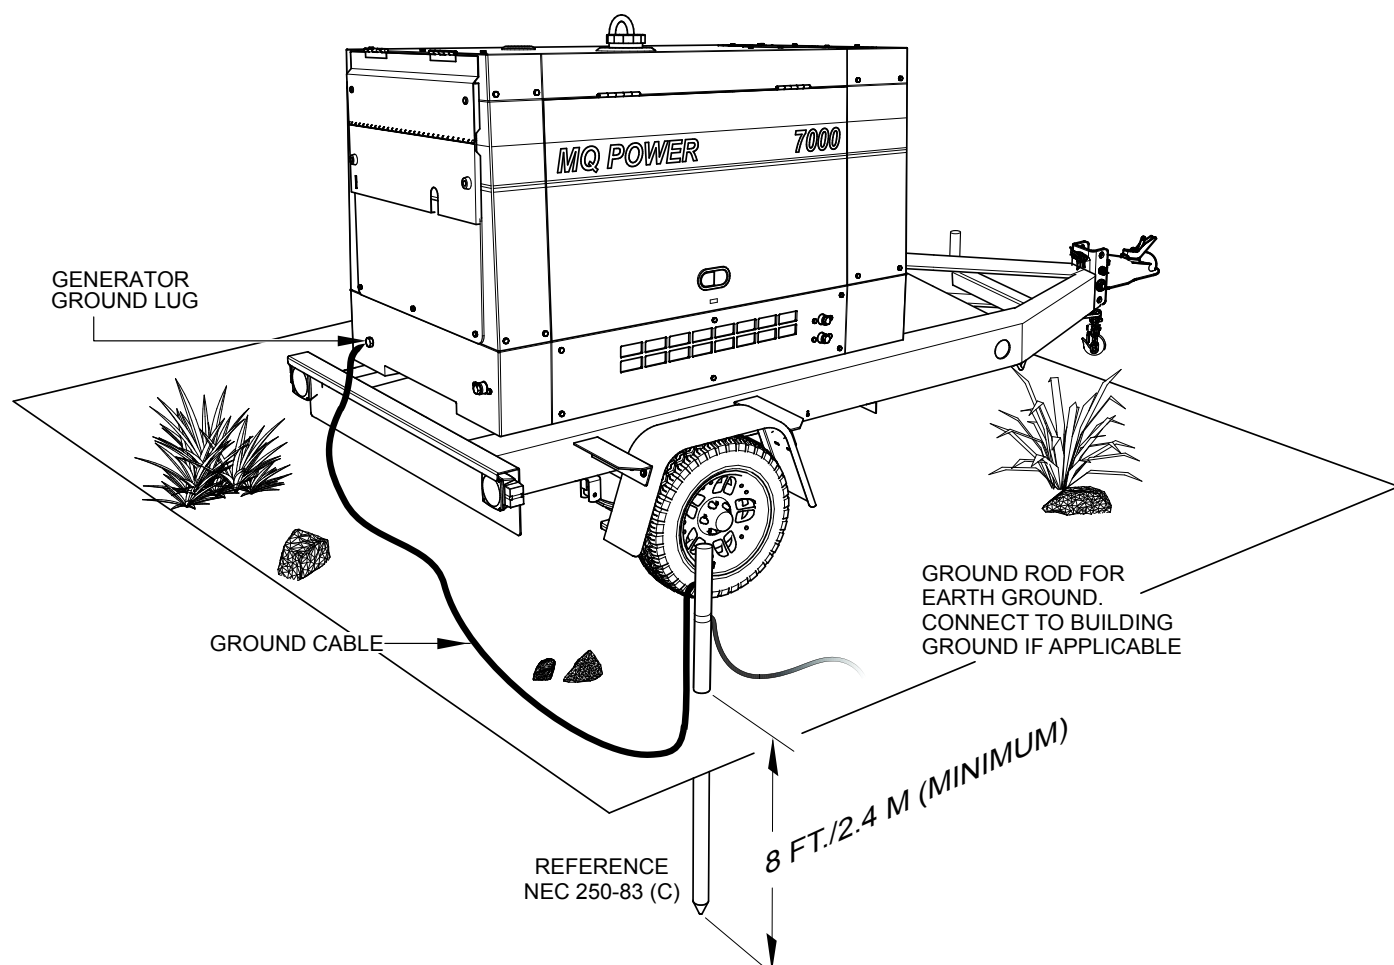

Figure 2. Generator Grounding
At the generator, connect the terminal of the ground cable between the lock washer and the nut (Figure 2) and tighten the nut fully. Connect the other end of the ground cable to a suitable earth ground (ground rod).
2. When grounding the generator (Figure 2) connect the ground cable between the lock washer and the nut on the generator and tighten the nut fully. Connect the other end of the ground cable to earth ground.